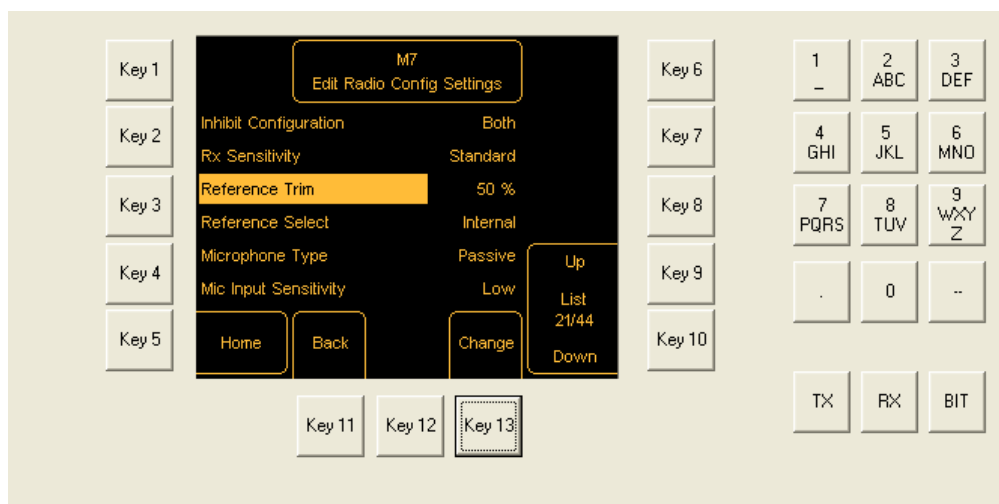

Fig 5-3 Reference Trim Selected
- (4) Using *Key 9* and *Key 10* to scroll up and down the configuration list, highlight *Reference Trim* as shown in Fig 5-3.